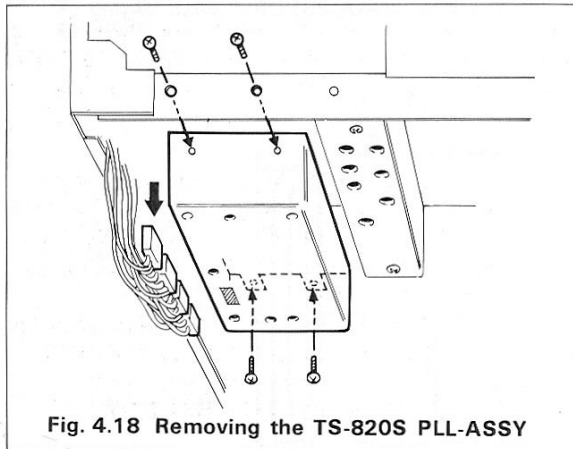

Fig. 4.18 Removing the TS-820S PLL-ASSY
#### 4.24 MODIFICATION OF THE TS-820S (FIG. 4-18 TO 4-28)
1. Remove the PLL-ASSY unit (Fig. 4-18).